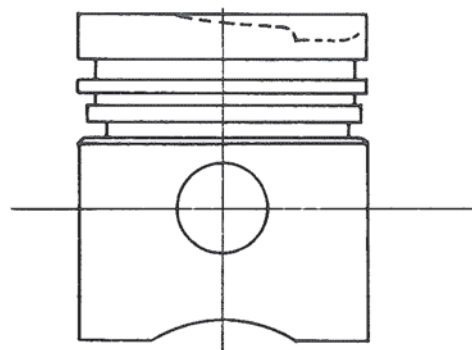

Figure 27. Piston Measurement.
1. Measure on piston pin center line and a right angles to it. Figure 27.